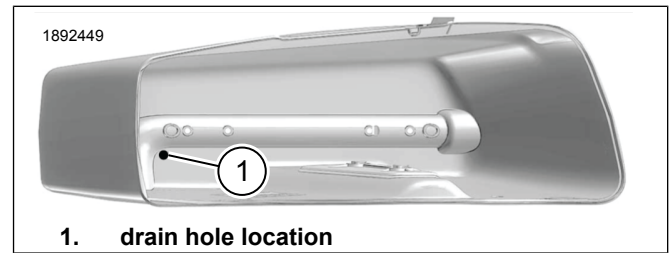

Figure 3. Left Saddlebag Drainage Hole Placement
See Figure 3. Drill drainage hole (1) in the approximate location shown.